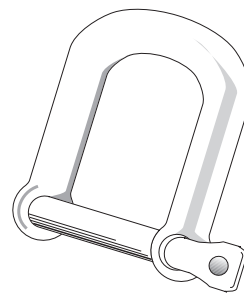

Figure 61.1 Diagram for question 4
4. What type of connection is shown by Figure 61.1 and where is it used?